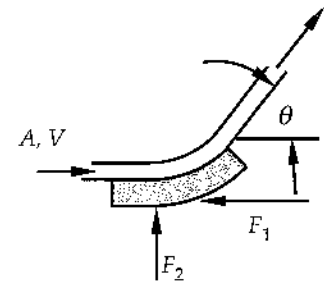

FIGURE P2.37.
37. A two-dimensional liquid jet is turned through an angle θ ($0^\circ < \theta < 90^\circ$) by a curved vane, as shown in Figure P2.37. The forces are related by $F_2 = 3F_1$. Determine the angle θ through which the liquid jet is turned.